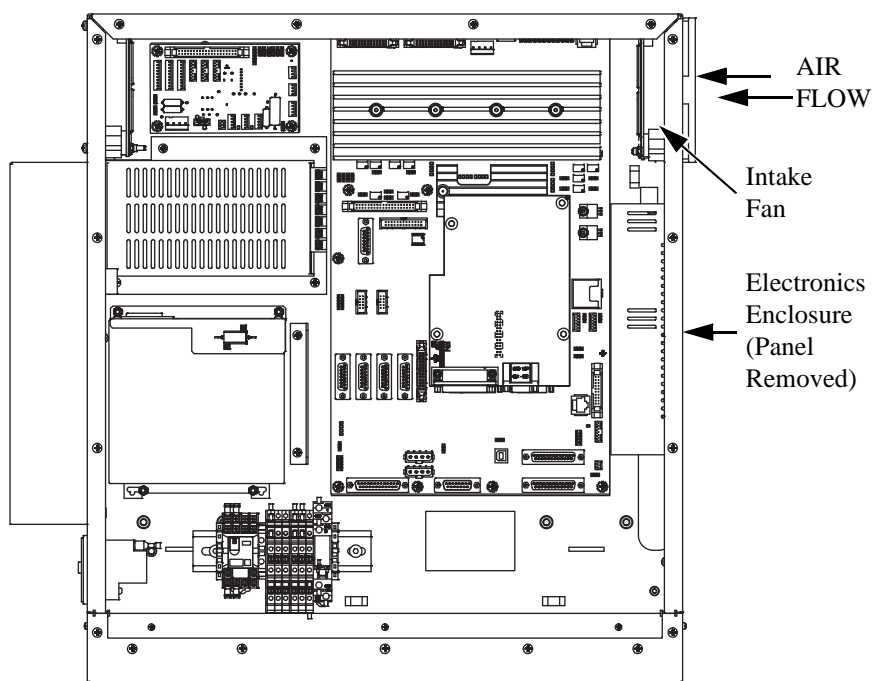

Figure 9-40 Location of the Intake Fan
10. Re-connect the power cord, power up the system, and verify that the airflow is in the direction indicated by the arrows in Figure 9-40.